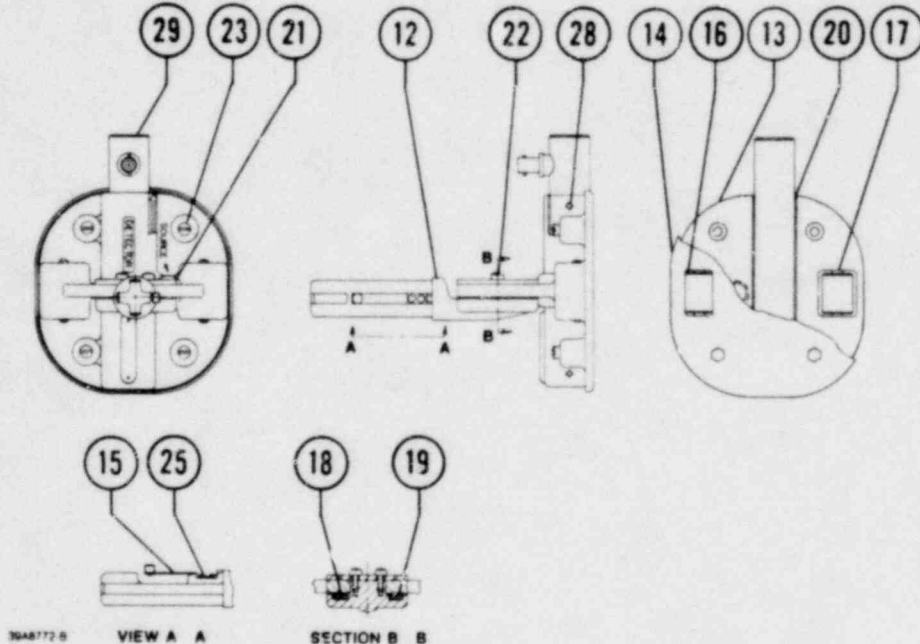

Figure 9. Head Assembly for Type LD2220 Level Detector
1. Disconnect the Type C connector (key 8) from the count rate meter (key 1).
2. Open the count rate meter and unscrew the two fillister screws (key 10) that secure the count rate meter to the pole assembly. Remove the count rate meter.
3. Disconnect the MHV connector (key 7) from the detector tube (key 29, figure 9) in the head assembly.
4. While disengaging the lock assembly (key 15, figure 9), remove the head assembly from the pole assembly.
6. Secure the count rate meter to the pole assembly with the fillister screws (key 10) and close the count rate meter. Connect the Type C connector to the count rate meter to complete the assembly.
1. Disconnect the MHV connector (key 7) from the detector tube (key 29, figure 9) in the head assembly.
2. Disengage the lock assembly (key 15, figure 9) and remove the head assembly from the pole assembly.
The radiation source (key 26, figure 8) used with this level detector contains radioactive material which can cause personal injury if mishandled in any way. Therefore, under no circumstances is the source housing to be disassembled, modified, or application altered in any manner. For any maintenance work involving removal of the radiation source, or of the head cover (key 14, figure 9), the head assembly of the device should be returned to Nuclear Sources and Services Inc., 5711 Etheridge, Houston, Texas, 77087. Always contact your Fisher sales office or sales representative when the head assembly is being returned for service.
1 SEE FIGURE 9 FOR DETAIL OF INDIVIDUAL PARTS OF HEAD ASSEMBLY.